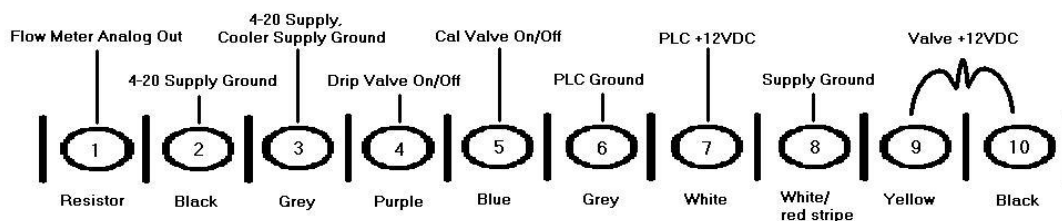

Figure 4-1 TB1 Drawing of Customer Interface
- Make and test connections for 4-20 mA, 0-1V, RS232 use as required (see Fig. 4-1).